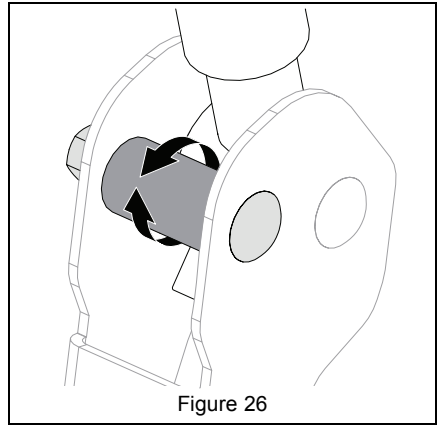

Figure 26
5. Turn eccentric spacer so levers are at the same height and have a 1.3 cm – 2.5 cm (1/2" – 1") gap between lever ends. See Figure 26.